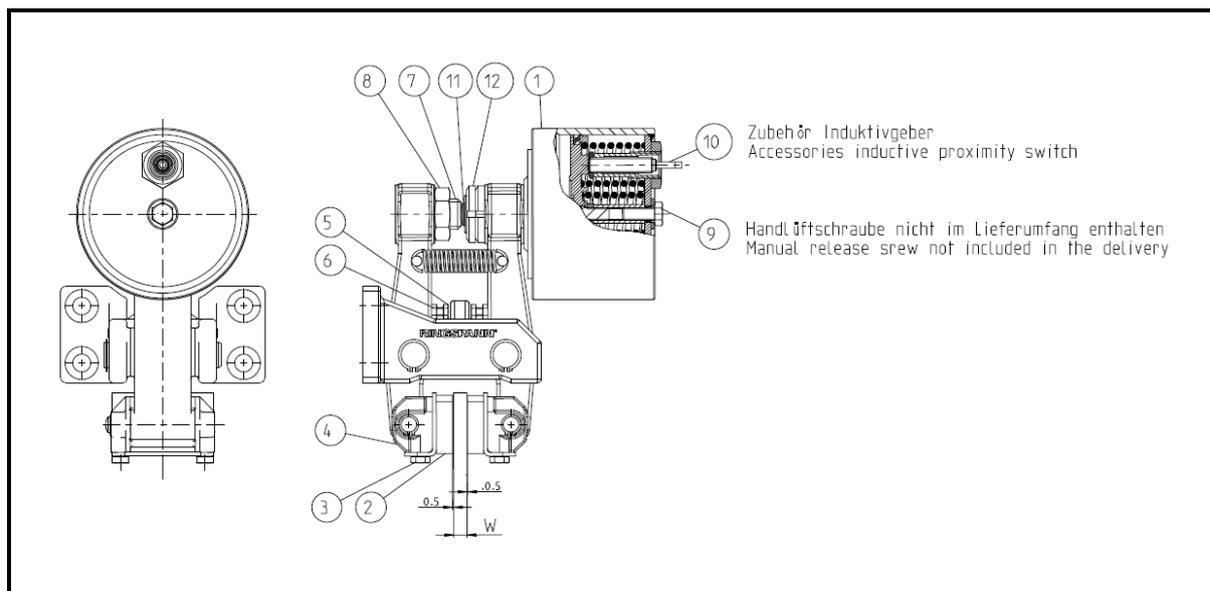

Fig. 2.1
The brake pad distance is set after the brake calliper has been assembled and after pad wear through adjusting/ readjusting, see Fig. 2.1.
The setting/ adjusting process of the FPM version manually brake has to be carried out with the set screw (item 7) and the two adjusting screws (item 5), shown in Fig. 2.1.
The setting/ adjusting process of the FPA version automatic brake has to be carried out only by using the two adjusting screw (item 5), shown in Fig. 2.1.